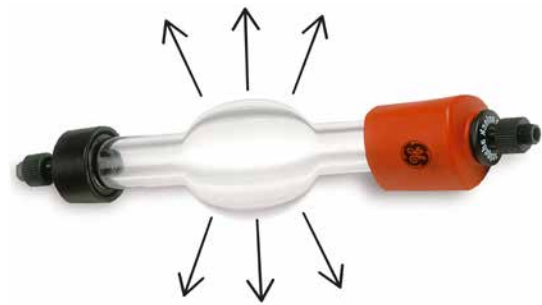

Fig 5. Column hardware pressure limit is the maximum pressure the column can withstand without damage.
1. **To protect the column hardware:** Column hardware pressure limit (Fig 5), which is the maximum pressure the hardware can withstand without being damaged. This value is fixed for each column type. Leakage from the column could be a sign of excessive pressure on the column hardware. The column hardware pressure limit is included in the instructions and column UNICORN™ list for each column type, respectively.